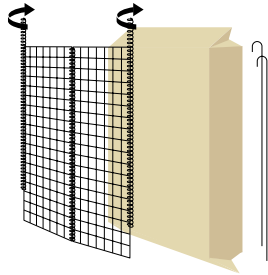

Figure 6
Obtain a full size panel to the correct size, two coils, two joining pins and a piece of geotextile 6" (150mm) larger on all sides (*Figure 6*).
- Fit coils to both sides of the repair panel (*Figure 6*).